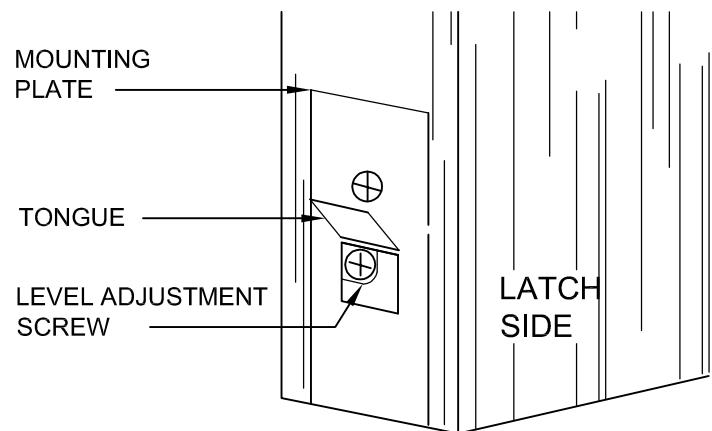

FIG.3
5. Fit second mounting plate on latch side (FIG. 3).